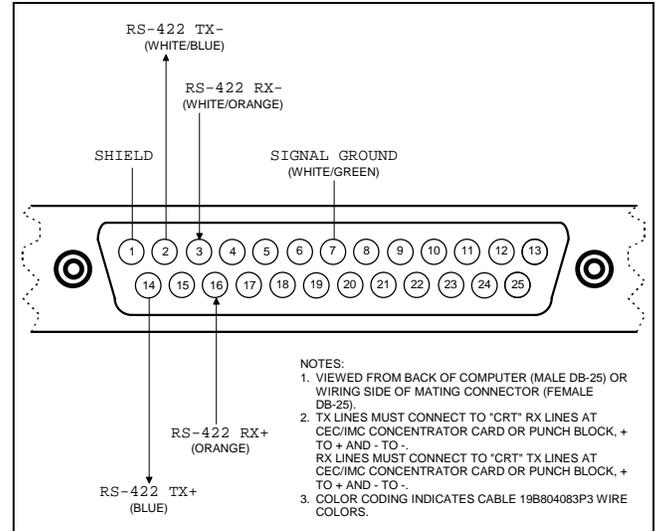

Figure 4 – Plug-In RS-422 Board DB-25 Connector Pin-Out (B&B Electronics 3PXOCC1A Board)
□ If cable 19B802083P3 is not used for RS-422 hook-ups, see Figures 4 and 6A and/or the manufacturer's documentation for COM port connector pin-out details. Fabricate a cable as required and then use it to interconnect the C3 Maestro's RS-422 control data COM port to the appropriate CEC/IMC Data Concentrator Card as required. Shielded cabling is recommended. Per RS-422 specifications, cable length should be limited to 4000 feet (1219 meters) or less.